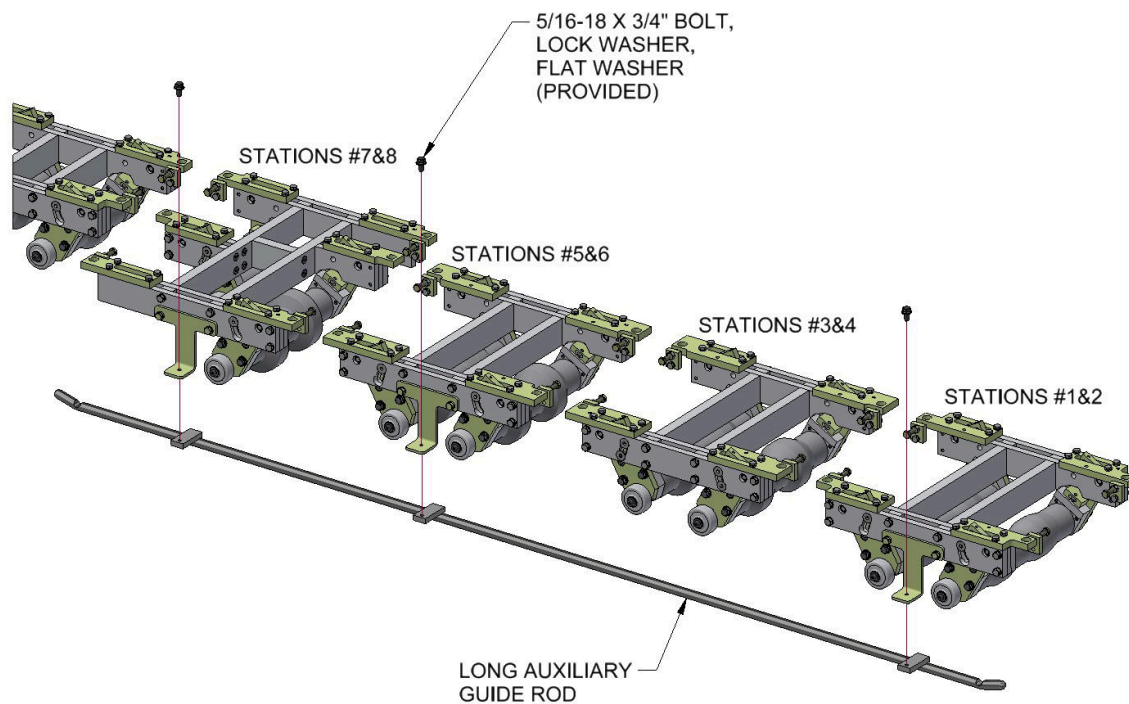

Figure 27: Long Auxiliary Guide Rod Installation
8. Install the Long Auxiliary Guide Rod as shown in Figure 27 below. This guide rod and the shorter one below are needed to prevent the material from bunching up between the drive rollers.